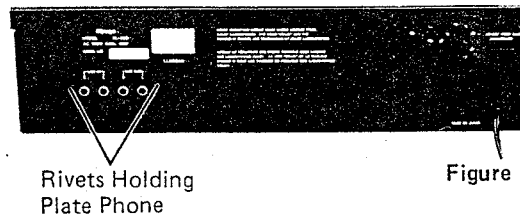

Figure 11
- (3) Pull out two rivets holding the line-in/line out jacks as shown in Figure 11.
- (4) Disconnect all wires from the P.C. Board.
- (5) Master P.C. Board can be completely removed from the chassis.